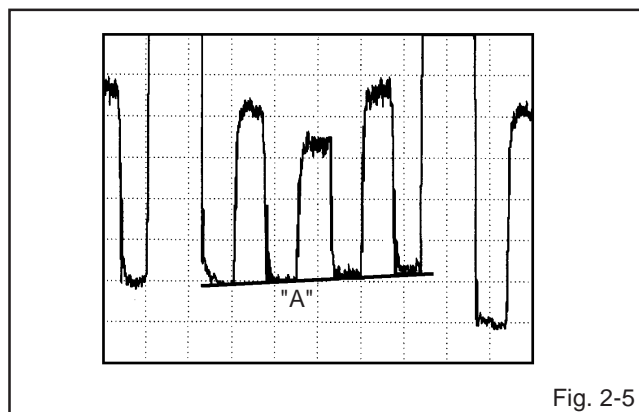

Fig. 2-5
6. Press the VOL. UP/DOWN button on the remote control until the section "A" becomes a straight line. (**Refer to Fig. 2-5**)
6. Press the VOL. UP/DOWN button on the remote control until the section "A" becomes a straight line. (Refer to Fig. 2-5)